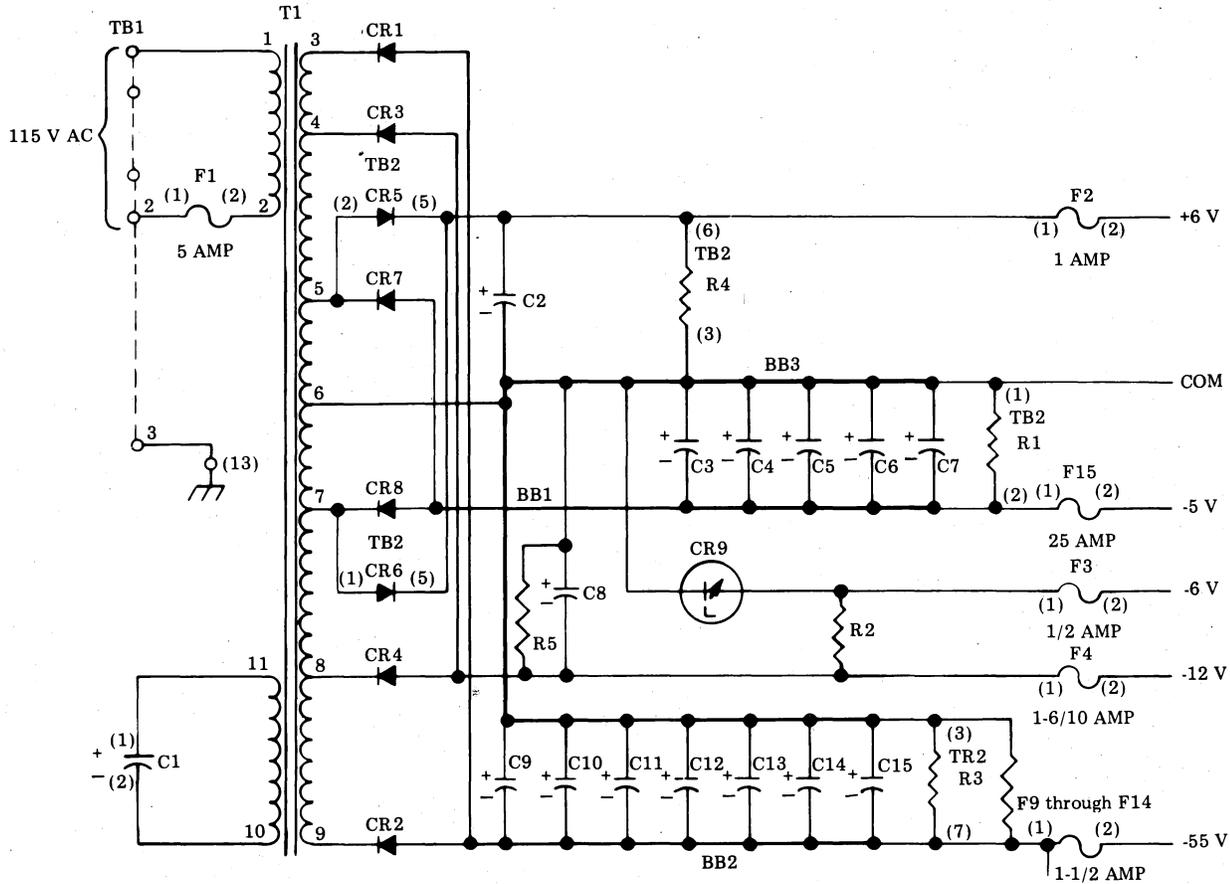

Figure 8 - Power Supply Circuit
4.26 The power supply uses four pairs of diodes connected across the transformer secondary as four full-wave rectifiers. These rectifiers provide dc at +6 volts, -5 volts, -12 volts, and -55 volts. A zener diode and resistor are used as a voltage divider to provide a -6 v regulated output from the -12 volt supply. Capacitor filtering is employed throughout. All outputs are appropriately fused (Figure 8).